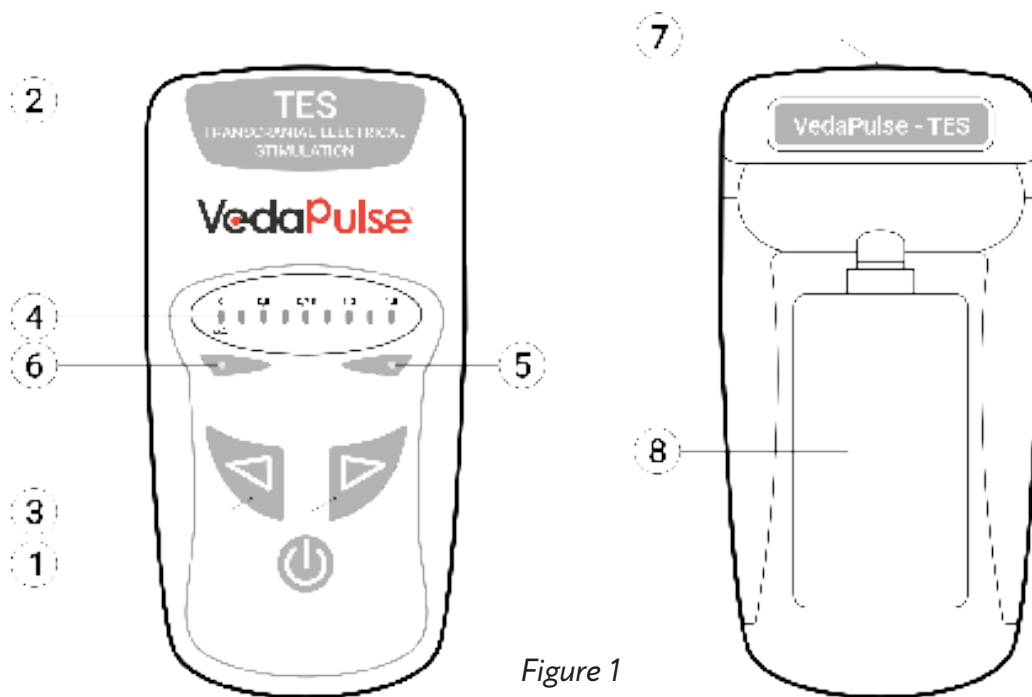

Figure 1
6.2.1 Make sure that there is a connected power cell in the battery compartment or connect the battery to the appropriate pins. To do this, remove the battery compartment cover (fig. 1). Place the excess wire in the battery compartment. Plug the power cord connector to the battery, place the battery in the device compartment, and close the cover until it clicks.
6.2.2 Switch on the device. To do this, click the 'On/Off'  button (fig. 1):
- For several seconds, the device will undergo an automatic performance check, i.e. on the 'mA' current indicator (fig. 1), the LEDs from 0 to 1.5 mA and then from 1.5 to 0 mA will light up sequentially. Only the leftmost LED remains lit afterwards;
6.2.4 If you do not wish to perform a TES procedure, switch off the device with the 'On/Off'  button (fig. 1).
- connect the plug of the contact wire (18) to the socket (fig. 1) on the device box.
6.4.1 Connect the electrode cable with the cable plug (fig. 2) to the device socket (fig. 1).
6.4.2 Switch on the device with the 'On/off'  button (fig. 1). Wait until the device is ready for operation.
6.4.4 Press and hold the 'Increase current' > button (fig. 1). With fault-free electrodes, the current will gradually increase from 0 mA to 1.5 mA, which will be indicated by the successively illuminated LED indicators of current increase. Release the button.
6.4.5 Press the 'Decrease current' < (fig. 1) and control the current reduction from 1,5 mA to 0 mA on the current indicator (fig. 1). Release the button.
9.2.1 Switch on the device by pressing the 'On/Off'  button (fig. 1) and wait for it to be ready for operation.
9.2.2 Make sure that the Battery indicator (fig. 1) is not lit or flashing.